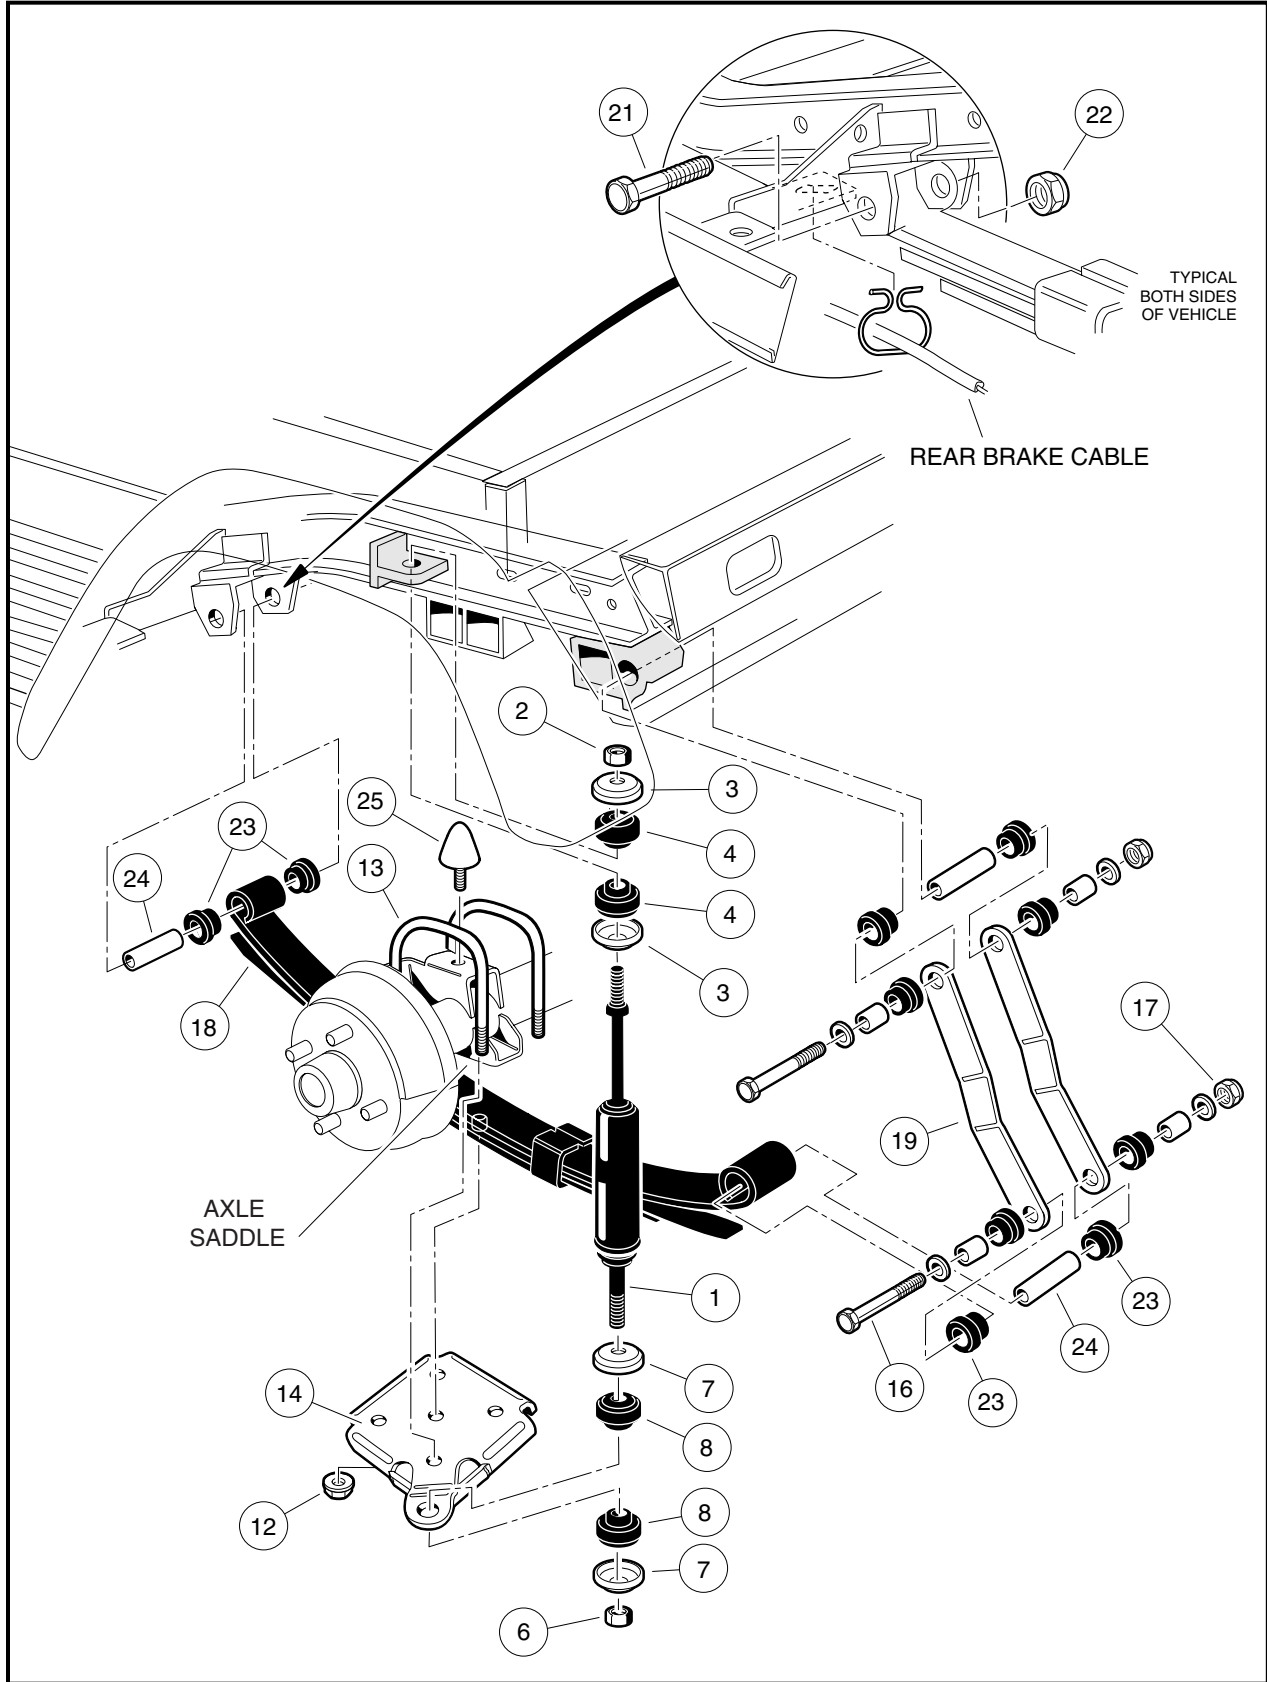

Figure 9-1 Rear Suspension for MC012C-AS00 Transaxle
1. Check shock absorbers (1) for damage or fluid leakage around the housing and replace if necessary (**Figure 9-1, Page 9-2**).
2. Remove the nut (2), cup washers (3) and rubber bushings (4) from the upper shock absorber stem.
2. Tighten nut (2) until rubber bushings (4) expand to the same diameter as the cup washers (3) (**Figure 9-1, Page 9-2**).
3. Install mounting hardware and tighten the nut (6) until the rubber bushings (8) expand to the same diameter as the cup washers (7).
7. Remove the lock nuts (12) attaching the U-bolts (13) to the shock mount bracket (14) (**Figure 9-1, Page 9-2**).
8. Remove bolt (16) and lock nut (17) attaching the leaf spring (18) to the rear shackles (19).
9. Allow rear of leaf spring (18) to rest on the ground and remove the bolt (21) and lock nut (22) attaching the front of the spring to the vehicle frame. Remove spring from vehicle.
10. Inspect the rubber bushings (23) and steel sleeves (24) in the spring eyes and replace them if they are worn or damaged.
1. Install rubber bushings (23) and steel sleeves (24) into leaf spring eyes (**Figure 9-1, Page 9-2**).
2. Place front of leaf spring (18) into front mounts and insert grade-eight bolt (21) through mount and leaf spring eye. Attach lock nut (22) and tighten to 15 ft-lb (20.3 N·m). See following **CAUTION**.
3. Align opposite end of leaf spring with spring shackles (19). Insert bolt (16) through shackles and leaf spring eye. Attach lock nut (17) and tighten to 15 ft-lb (20.3 N·m). Lower transaxle onto leaf spring (18) (**Figure 9-1, Page 9-2**). See following **CAUTION**.
- When placing transaxle on spring, be sure to position locating bolt on the spring into the center locating hole in the axle saddle (**Figure 9-1, Page 9-2**).
4. Install shock mount bracket (14) onto locating bolt of leaf-spring.
5. Install U-bolts (13) and lock nuts (12) and tighten lock nuts in a crisscross pattern to 35 ft-lb (47.5 N·m).